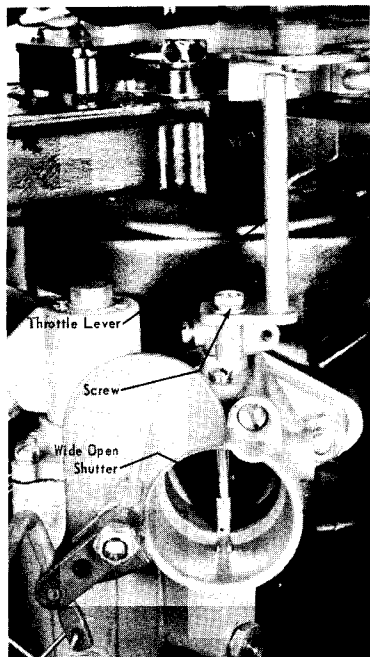

Figure 4. Throttle Shutter Adjustment
2. With magneto in full advance position, loosen screw which secures throttle lever to carburetor and adjust throttle shutter to wide open position. Tighten screw securely. (Fig. 4)